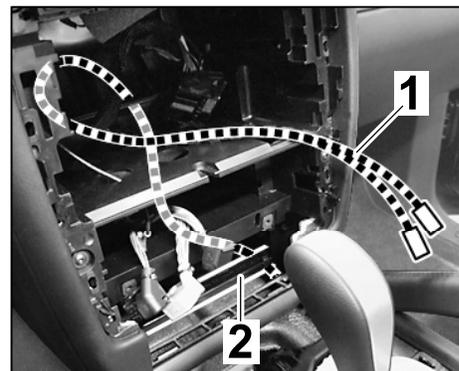

Figure 5
- 3.5 Route wire harness ⇒ *Figure 5 -1-* under the transverse bar ⇒ *Figure 5 -2-* to the PCM3.0 installation slot.